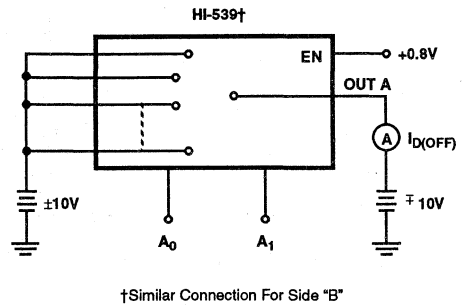

FIGURE 2B. $I_{D(OFF)}$ TEST CIRCUIT (NOTE 1)
1. See Figures 2B, 2C, 2D. The condition $\pm 10V$ means: